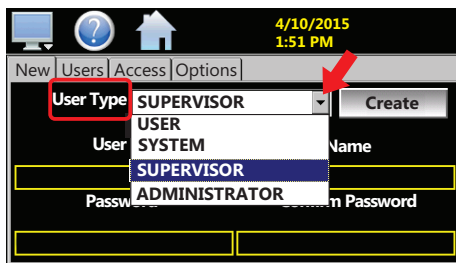

Fig. 20: Select Supervisor
8. Select Supervisor from the User Type drop-down list (Fig. 20).